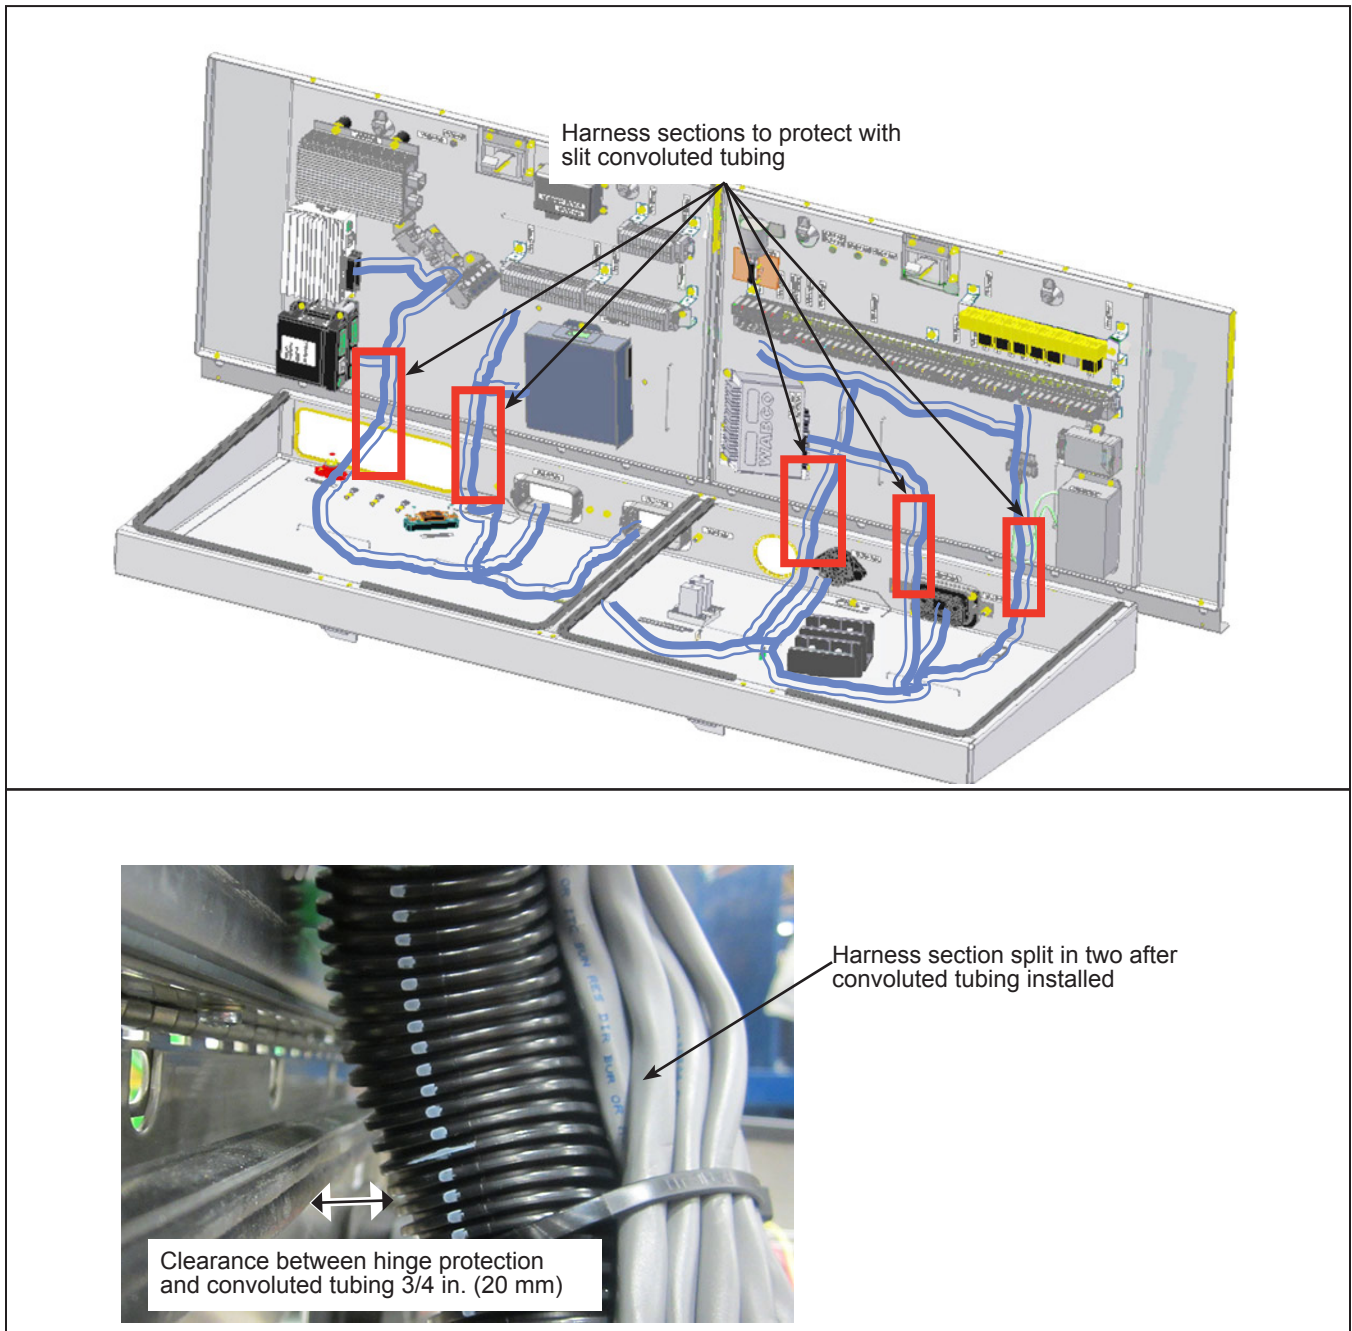

Figure 1 - Harness Sections to Modify
- 1.2. Remove all tie wraps located on the harness from 6 in. (152 mm) before and 6 in. (152 mm) after the main panel hinge. See Figure 1.
- 1.4. Install 6 in. (152 mm) slit convoluted tubing on the harness section crossing on top of the main electric panel hinge. The slit side of the convoluted tubing should not face the hinge. Select tubing size according to harness size. See Figure 1.
Some harnesses may need to be split into two section for the installation of the convoluted tubing. If a sections harness needs to be split in two, install the slit convoluted tubing on the section closest to the hinge, i.e the underside of the harness. See Figure 1.
- 1.6. Fix all modified harness sections to the main electric panel tie wraps anchored in such a way to obtain 3/4 in. (20 mm) of clearance between the hinge protection and the convoluted tubing. See Figure 1.